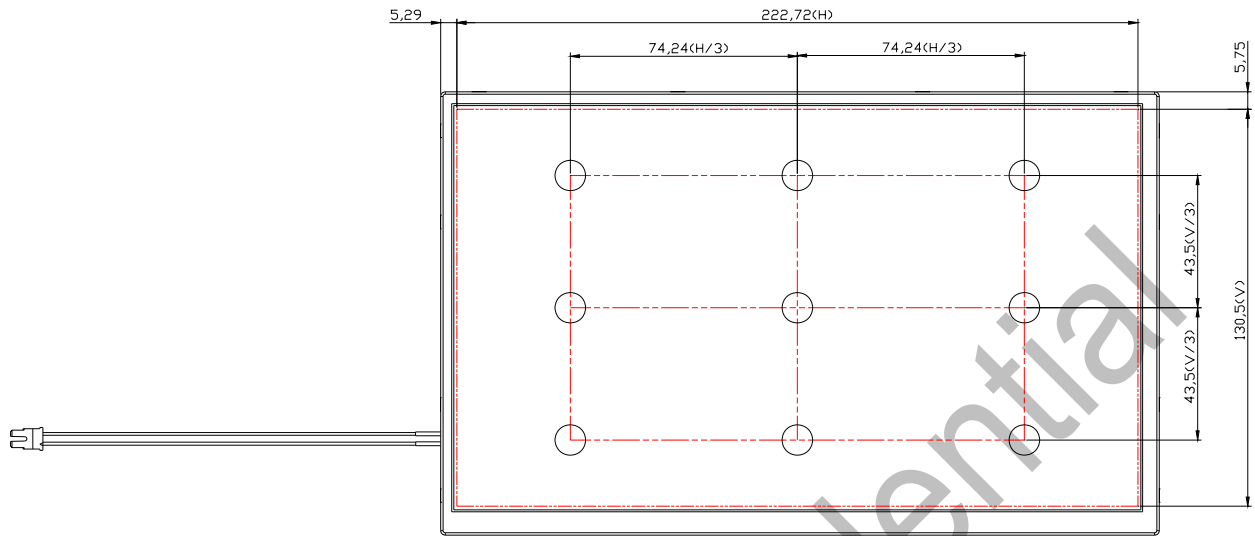

Fig8-1 Measuring point
- 3) Definition of luminance : Measure white luminance on the point 5 as figure8-1
- Definition of Luminance Uniformity: Measure white luminance on the point1~9 as figure8-1